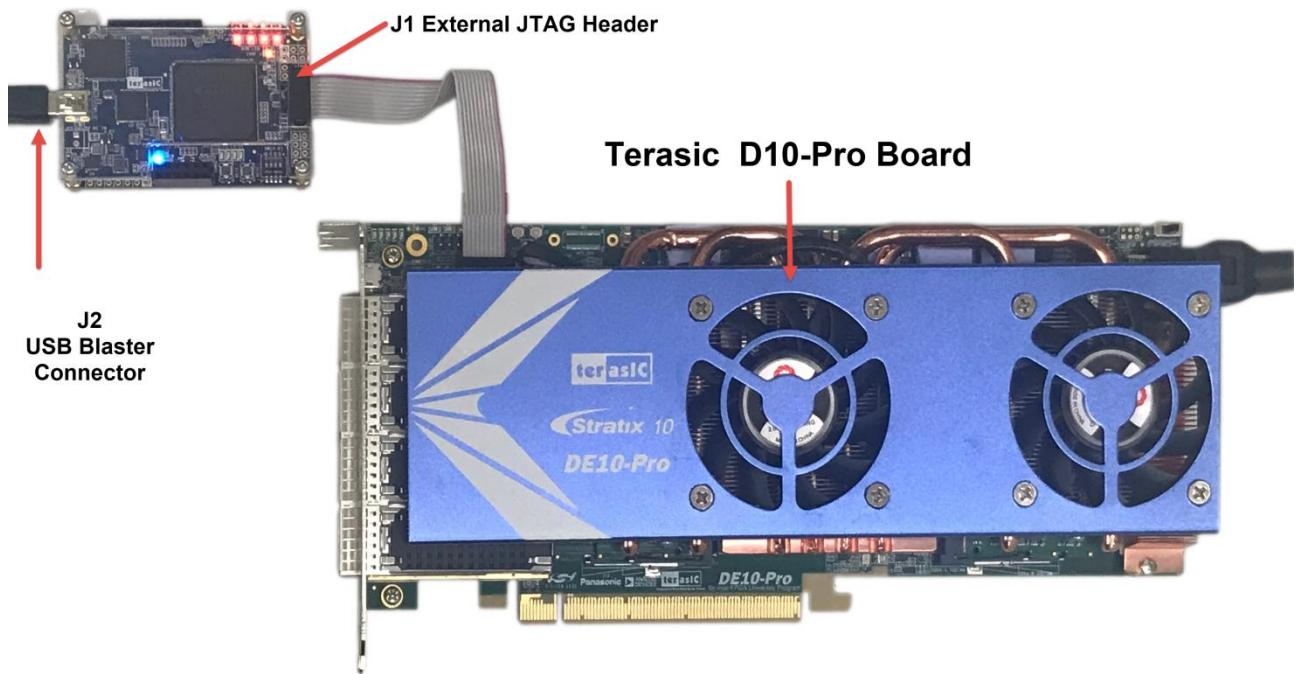

Figure 5-5 The flat ribbon cable connected to the T-Core board
2. Connect the other end of the flat ribbon cable to the 2x5 JTAG header on the DE10-Pro board, see **Figure 5-5**.